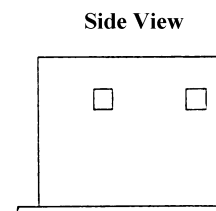

Figure 4
9. While holding the lock strike in position, use the two square holes in the lock strike as a template and mark the holes. (See figure 4 below.)